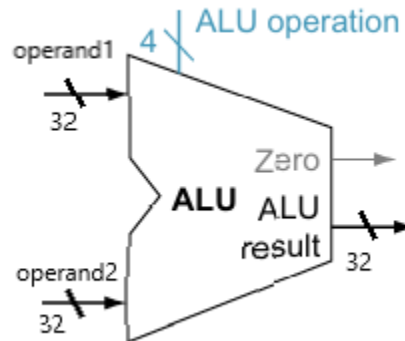

Figure 1.1: ALU
1. Implement the ALU shown below in system verilog using QUESTA SIM software. Use the module name, input, output port names shown in the figure 1.1. The name of the module is shown in bold. The ALU should be able to perform AND, OR, ADD and SUBTRACT operations according to the **ALU operation** control signals given in figure 1.2. The output **Zero** should be 1 when subtraction of two operands give the result 0.